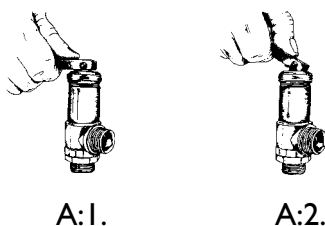

Fig. 7A
- Lift the handle so that the steam has a free passage through the safety valve, fig. 7A; A:1 and 7A; A:2.